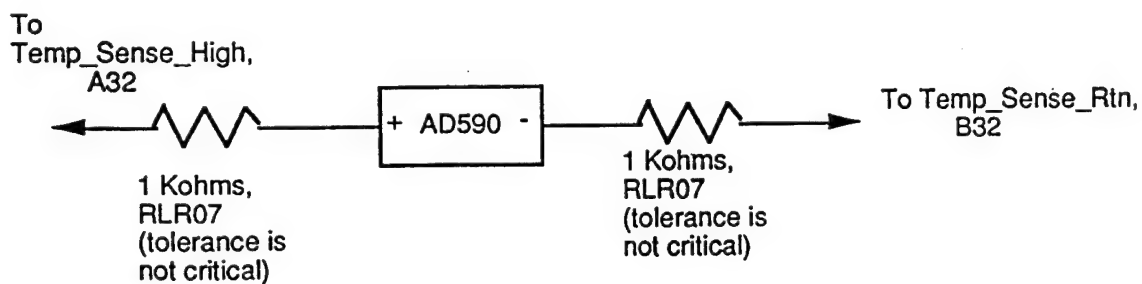

Figure 7 - Temperature Sensing Circuitry
3.2.7.4 Temperature Sensing Circuitry. The temperature sensing circuitry is shown in Figure 7. The AD590 will be provided by NRL. The AD590 is in a 2-pin flatpack package shown on the following page.